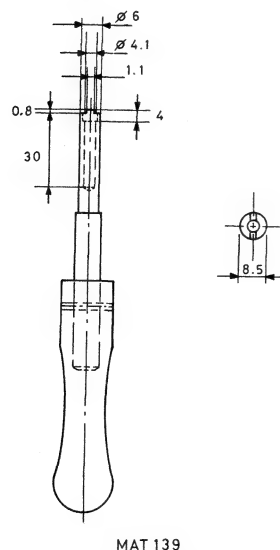

Fig.26.3. Dimensional drawing of tool for slotted nut.
- The internal fixation screw in the small knobs (4) can be slackened with a screwdriver: after this the knob can be taken off.
- The bigger knobs (2) have an internal fixation nut that can be slackened with a pair of pliers: after this the knob can be taken off.
- The text plate (7) can be removed after having removed six slotted nuts (6) behind the knobs Ch.A position, level MTB, level DTB, var Ch.A, var MTB and var DTB. For this job a special tool is available under service code number 5322 395 54024. For those who want to make this tool in a local workshop, a dimensional drawing is given in fig. 26.3.